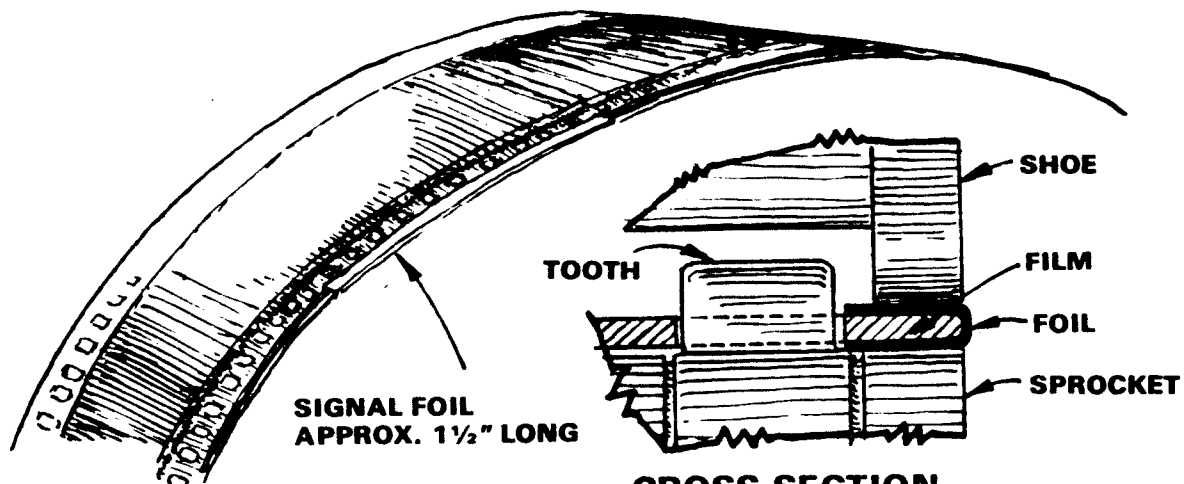

FIG. 4
10. Fig. 4 shows a signal foil applied to the leader or tail of a film reel. Preferably use 3/16 inch wide Metallic Sensing Tape, Allied Radio Stock No. 44-1155 (intended for cueing tape recorders), or equivalent, such as 3M manufacture.